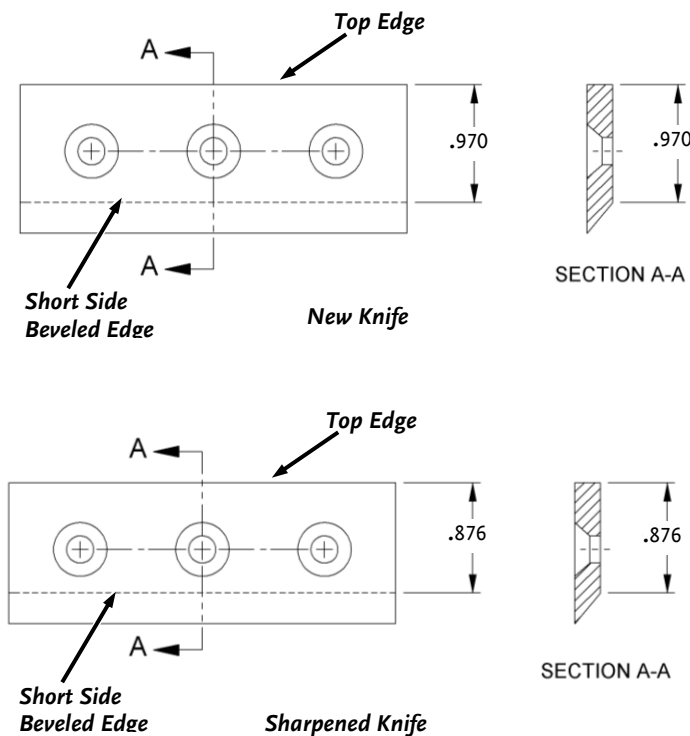

Figure 40
- A new Chipper Knife has .970" measurement between the short side bevel edge and the Knife Top Edge (**Figure 40 "New Knife"**).
- Once this measurement is below .876" (see **Figure 40 "Sharpened Knife"**), or if you are unable to remove dents or gouges with these guidelines, replace the Knife.